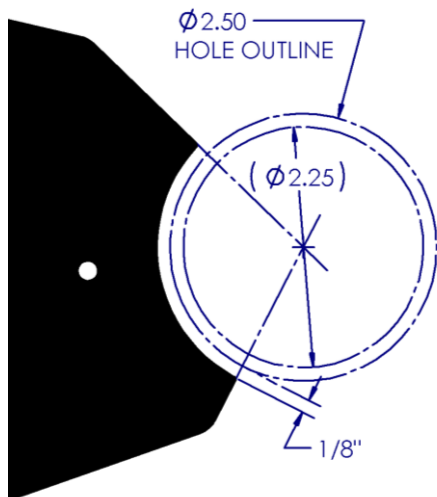

Figure 1
2. Install the **Block-off Panel** using the six (6) **Rivets** provided. Line up the holes with the existing holes in the belly pan.
3. The **Block-off Panel** will act as a guide for the new exhaust outlet hole. Use a 2-1/2" hole saw to cut a hole in the belly pan that is offset 1/8" from the circular edge of the **Block-off Panel**. The centre of the hole can be found by locating the intersection point of the two straight edges on either side of the circular edge. **See Figure 1**. If less clearance is desired, cut a 2-1/4" hole.